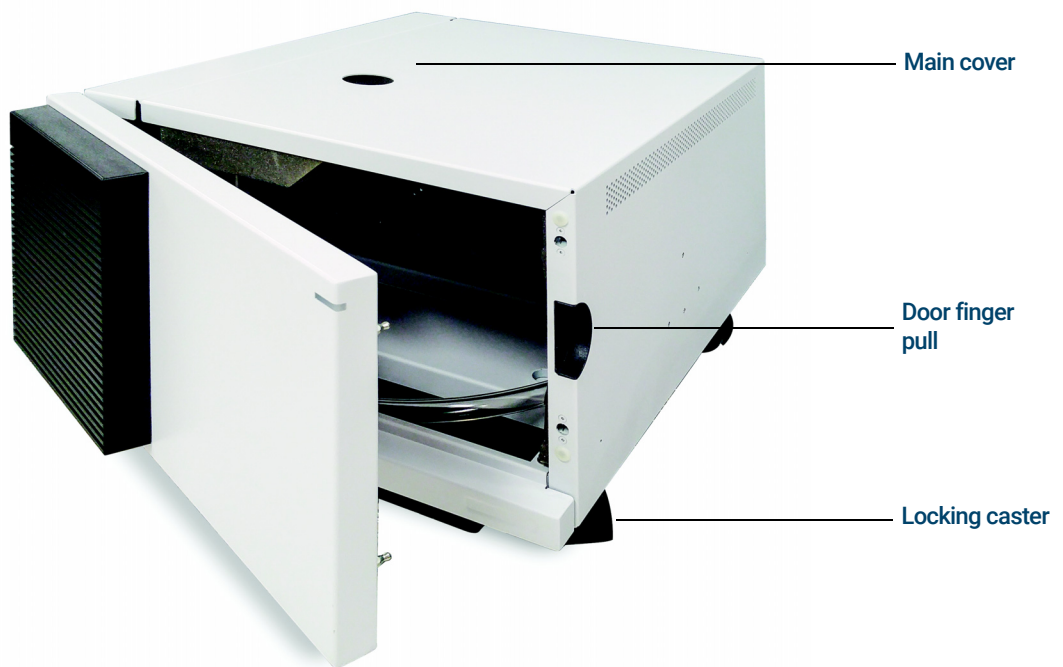

Figure 6. Locking casters, top access panels, and main cover
- 1 Lock the front locking casters to secure the Quiet Cover MS (**Figure 6**).